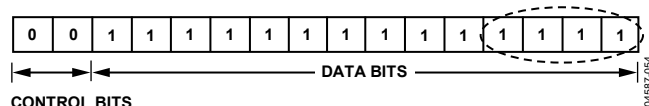
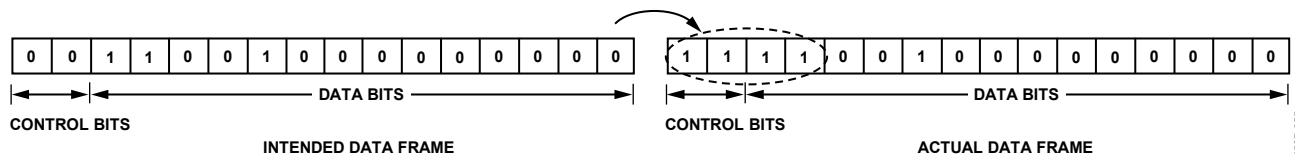

Figure 53. AD5453 First Write, Complete Data Sequence (0x3FFF)
Figure 54. AD5453 Second Write, Incomplete Data Sequence (0x3200) and Subsequent Additional Bits (0xF200)
- The user expects an output of 5.6 V. However, if SYNC goes high after 12 valid clock edges then an incomplete data sequence of 12 bits is loaded. To complete the shift register the 4 LSBs from the previous sequence are taken and used as the 4 MSBs missing. The addition of these 4 bits will put the device in rising edge mode and the output will show no change. Figure 53, Figure 54, and Table 11 show the data frames for this example.